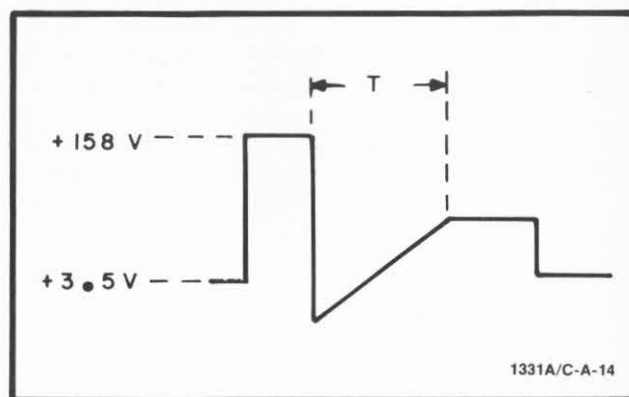

Figure 5-2. Erase Waveform
5-33. *Specification.* The erase function of Model 1331A can be accomplished in less than 1 second. This is assured by verifying that the erase cycle (T on figure 5-2) is less than 850 milliseconds.
c. Press and release (quickly) ERASE push-button. Observe waveform similar to figure 5-2. T shall be equal to or less than 850 msec.